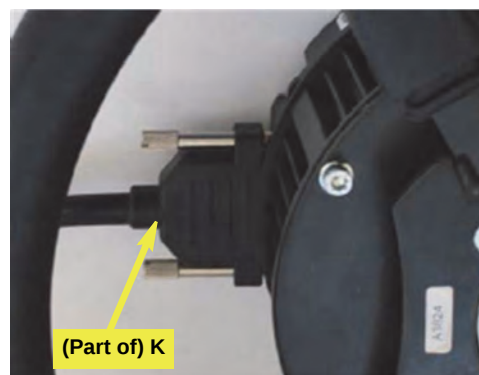

Figure 7b: Junction box comms cable connected to steering wheel assembly
- c. Clip the junction box **K** into place on its bracket **L** (neither shown) then connect **K**'s 15-pin connector cable to the communications port on the steering wheel assembly (Figure 7b). Use clip **N** suitably (not shown).